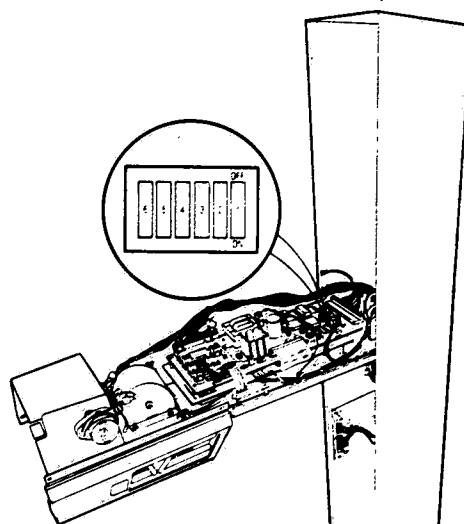

FIGURE 7-7 - Control PC Board Dip Switches
3. Make the appropriate settings on the Dip switches (six) on the Control PC board (Figure 7-7).